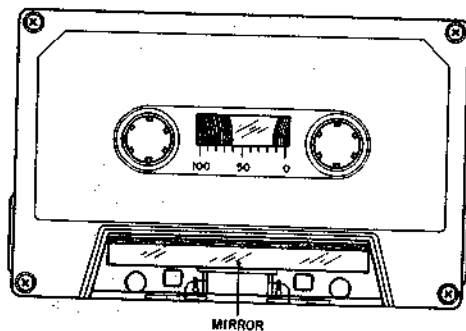

Fig. 19
- 1) When using an ordinary cassette, the tape guides and heads, etc. are not visible. As shown in Fig. 19 use a cassette tape from which part of the cassette case has been cut out and a mirror installed for easy visibility of the head area when making tape guide height adjustment.
4. When a mirror installed cassette test tape as shown in Fig. 19 is required, it can be ordered from AKAI Electric Co.